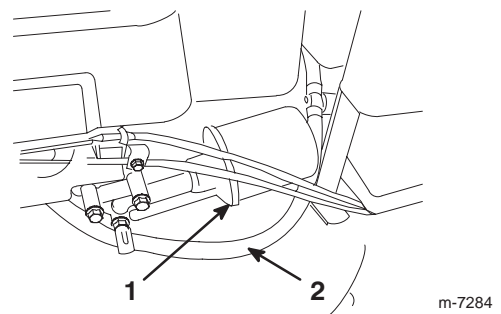

Figure 33
4. Disconnect the fuel line (Fig. 33) by loosening the tube clamp at the carburetor.
Replace the oil filter (Fig. 33) after every 100 operating hours or yearly, whichever comes first.